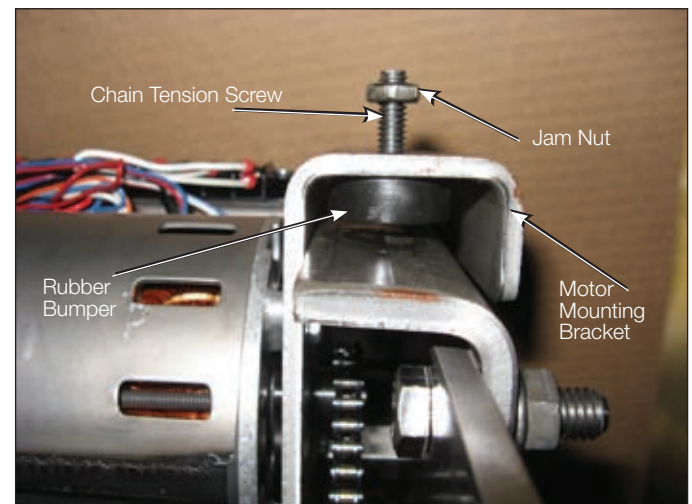

Figure 4.
5. Loosen the jam nut on the chain tension screw with a 7/16 inch (11 mm) wrench. Loosen the chain tension screw with a blade screw driver until the rubber bumper is against the motor mounting bracket. Refer to Figure 4.